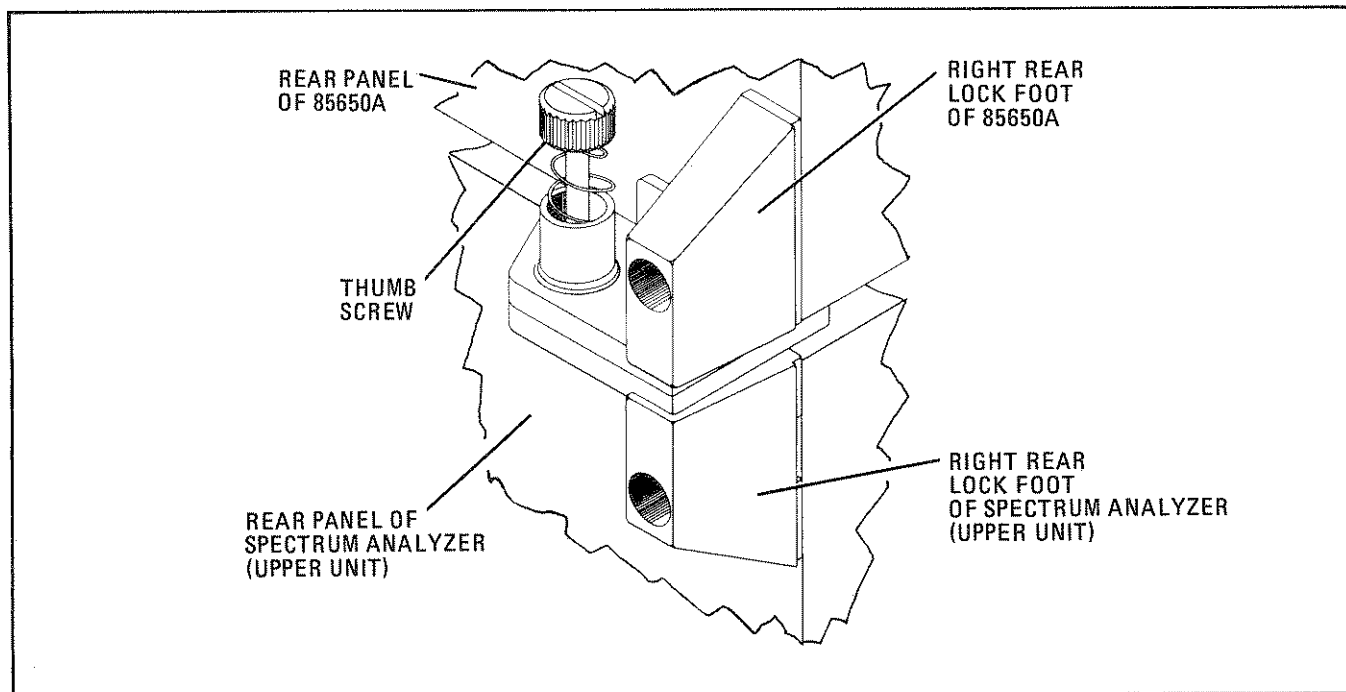

Figure 2-5. Installation of Lock Feet
3. Interchange two top rear lock feet on HP 85650A with two top rear feet of HP 85662A (Figure 2-5). Remove four plastic feet from bottom cover of HP 85650A.